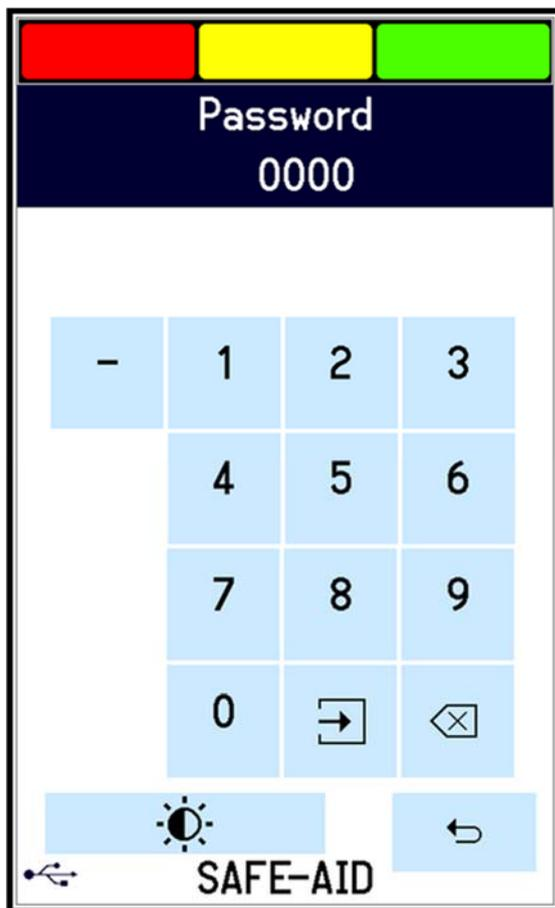

Figure 12
SCREEN BRIGHTNESS – FIGURES 12 & 13
1. Press the top left-hand corner and the **Password** screen will be displayed (figure 12).